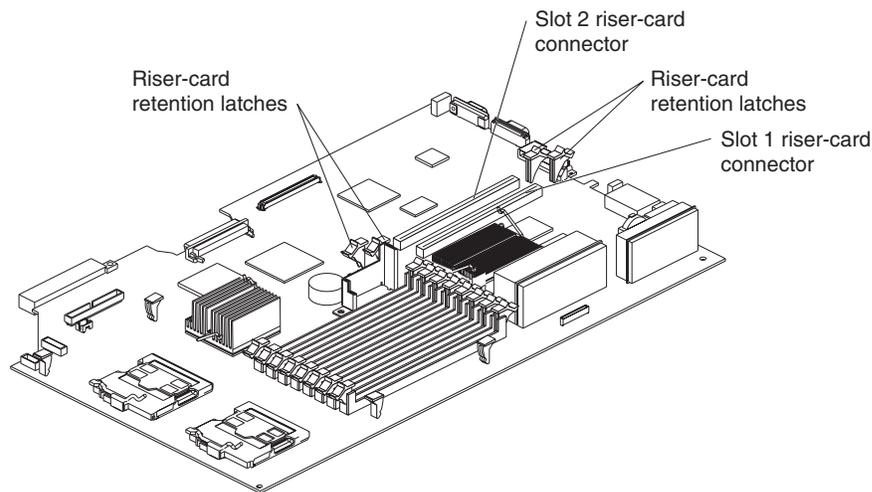

Figure 11. Adapter connectors and latches
Figure 11 shows the location of, and access to, the riser card retention latches for the slot 1 and 2 riser cards.
5. Determine which slot you want to use for the adapter, either slot 1 for a low-profile adapter or slot 2 for any type of adapter. See Figure 11 on page 20 for the locations of slot 1 and slot 2 on the system board.